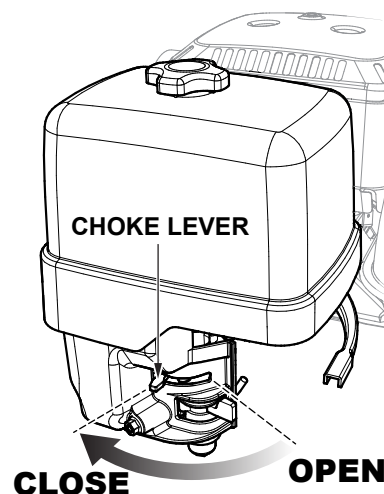

Figure 22. Choke Lever (Closed)
3. If starting a cold engine, place the choke lever in the **CLOSED** position (Figure 22).
7. If the engine has started, slowly return the choke lever to the **CLOSED** position (Figure 22). If the engine has not started, repeat steps 1–6.